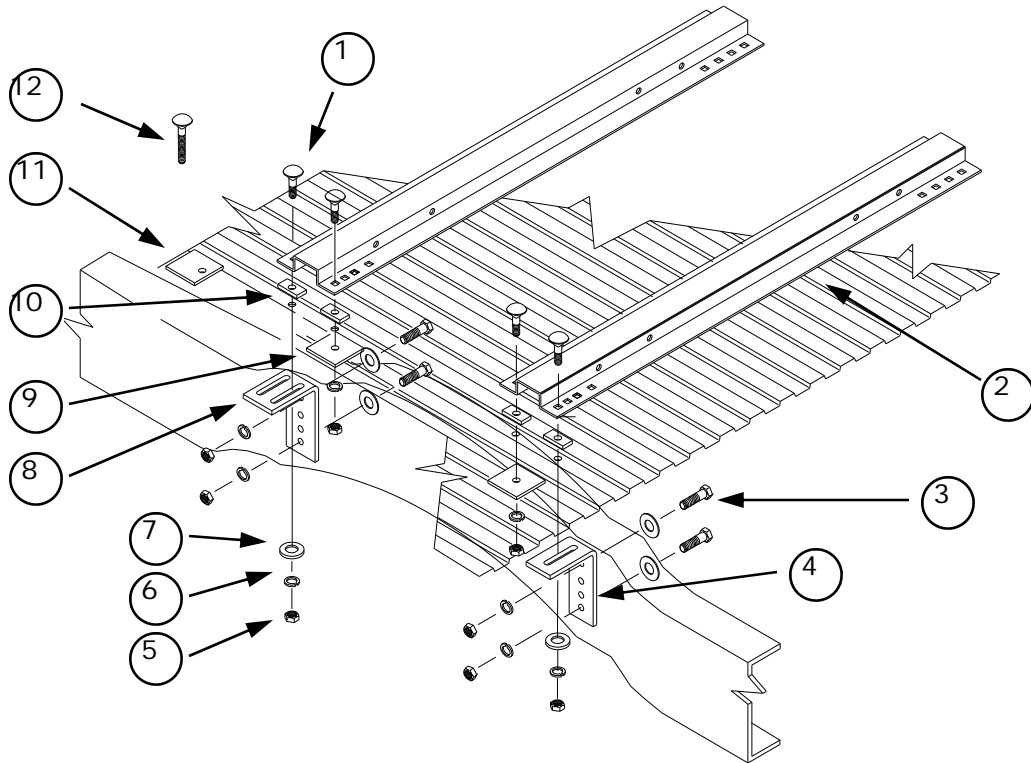

Figure 3
13. Using the same small drill bit, drill and check for possible obstructions those of Base Rail hole locations where no Mounting Bracket will be used. See Figure 3 and Table 3 on page 3, and note the use of Center Hole and Offset Hole Back-up Plates (9 and 11). These Back-up Plates are simply large washers meant to provide a larger surface contact than a standard flat washer. The Offset Hole Back-up Plate (11) is used where clearance is a problem.